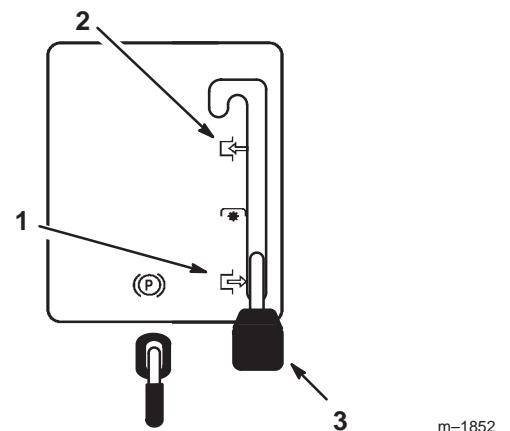

Figure 5
2. Move the PTO to Engaged (Fig. 5).
2. Move the PTO to Disengaged (Fig. 5).